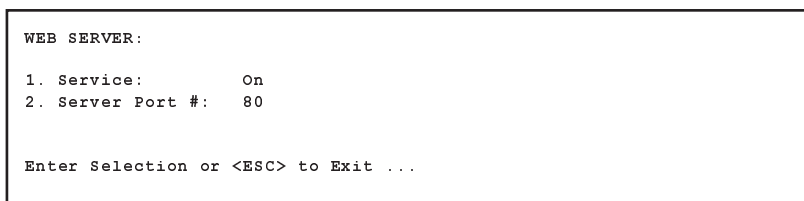

Figure 5.13: Web Browser Parameters Menu - Text Interface
**Text Interface:** Type **/w** and press **[Enter]**. The Web Server Parameters Menu will be displayed as shown in Figure 5.13.